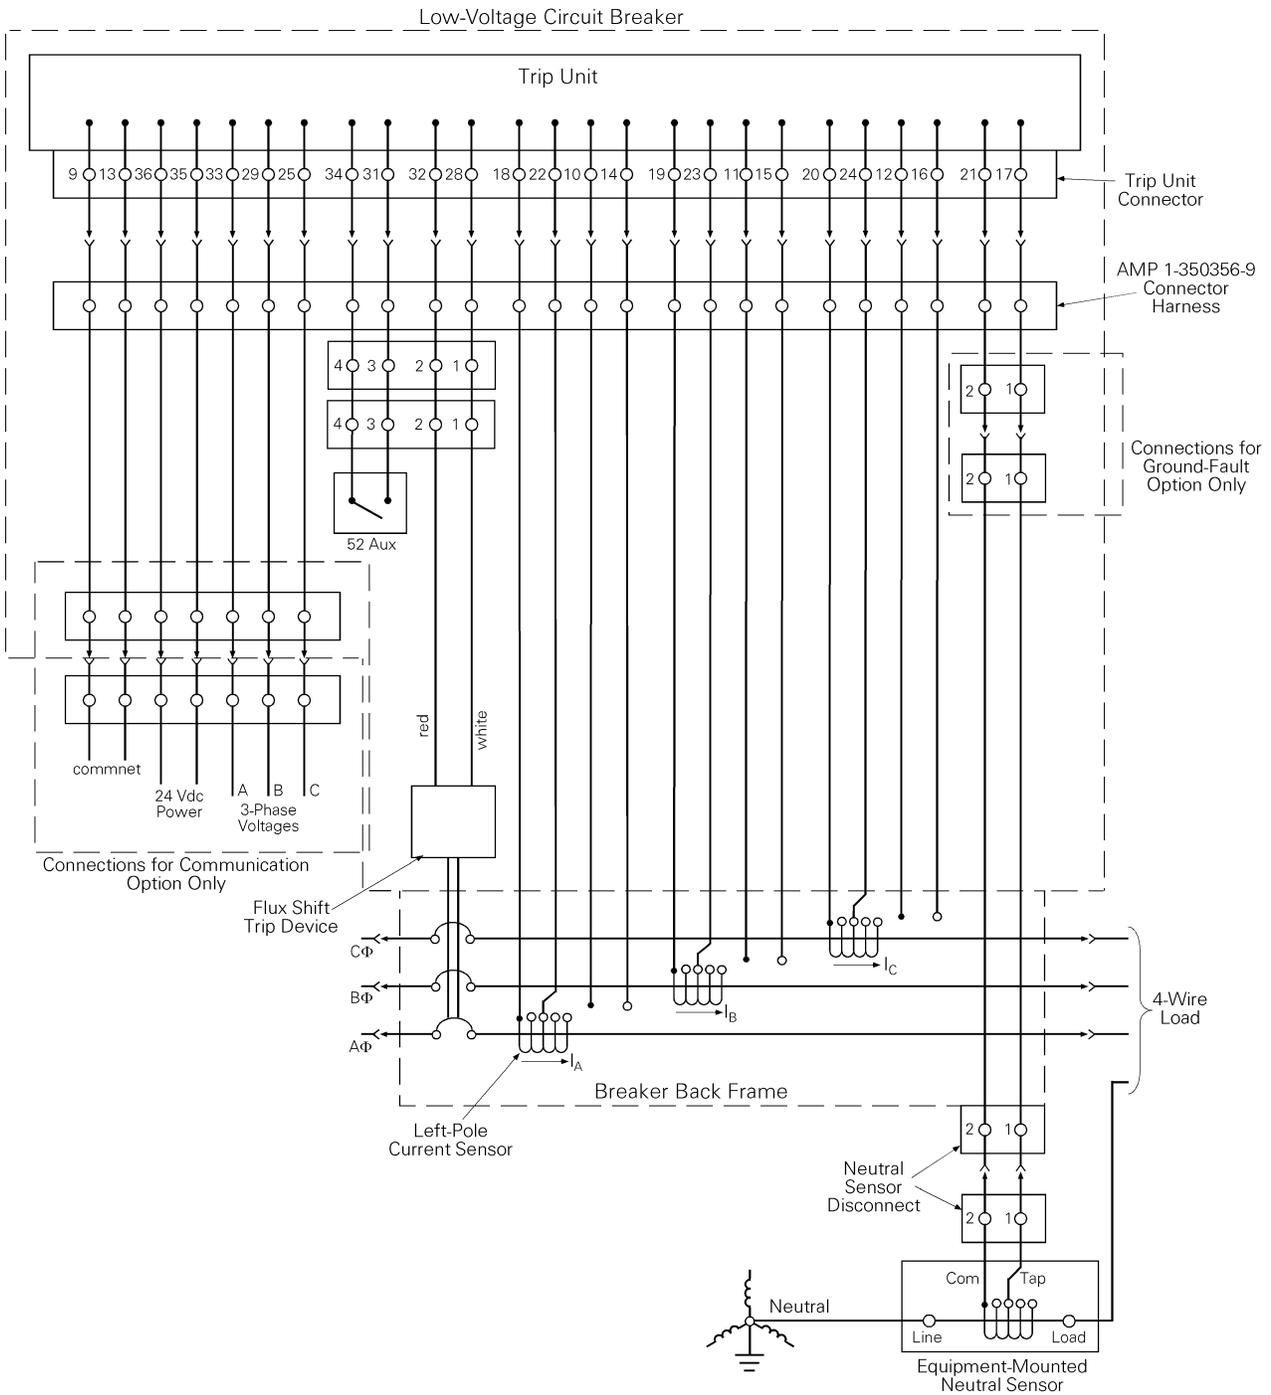

Figure 21. Cabling diagram for MicroVersaTrip Plus™ and MicroVersaTrip PM™ trip units with ground fault on four-wire loads.
3. Verify that the wiring harness connections to the sensors have the proper polarity (white lead to common, black lead to tap), as shown in the cabling diagram in Figure 21.
4. On ground fault breakers serving four-wire loads, check that the neutral sensor is properly connected, as indicated in Figure 21. In particular, check the following: